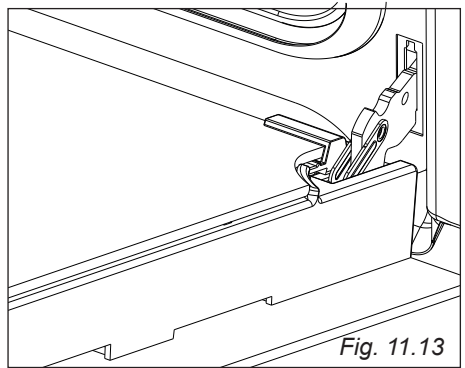
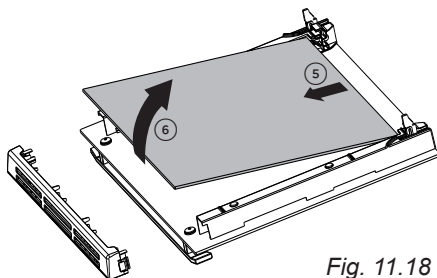

Fig. 11.13
Fig. 11.18
- Gently close the door (fig. 11.18) until left and right hinge levers "A" are hooked to part "B" of the door (fig. 11.13).
- Gently lift and pull out the middle pane of glass by releasing it from the bottom retaining notches (fig. 11.18).